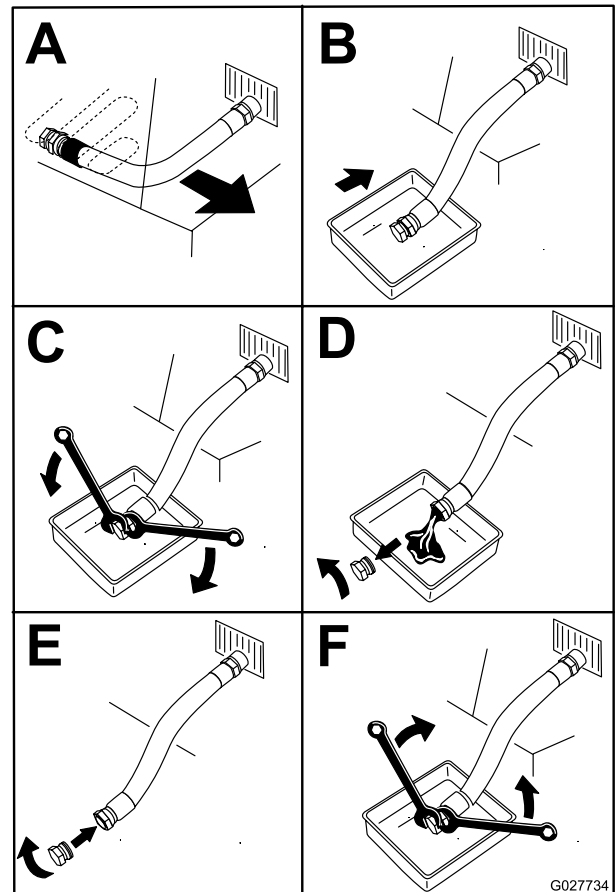

Figure 47
4. Shut off the engine, remove the key, and wait for all moving parts to stop before leaving the operating position (Figure 47).